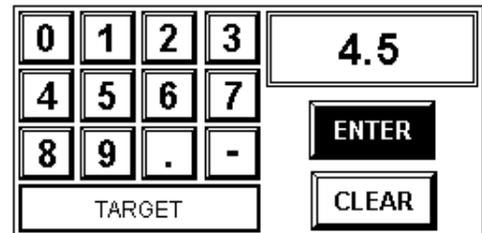

Figure ZD.2-11: Numeric Entry for Target
3) Press “TARGET” on the *Set Target Screen* to begin the Set Target function. The *Numeric Entry Screen* appears for entering the target value {Figure ZD.2-11}. The current target value stored in the system RAM is shown in the Display Window of the *Numeric Entry Screen*. The current function (Target) is shown in the Title Window below the numeric keys. Note that no lock out codes [Section ZD.2.c] are used for setting the target.